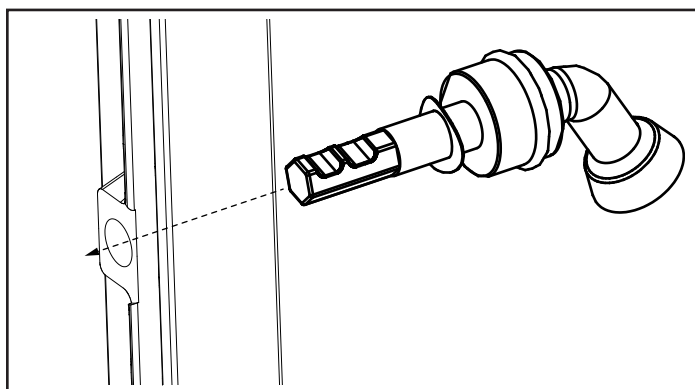

Figure 2
4. Check that the drilled hole is free of burrs. Slide handle into 10mm hole, Figure 2. **DO NOT LUBRICATE!**